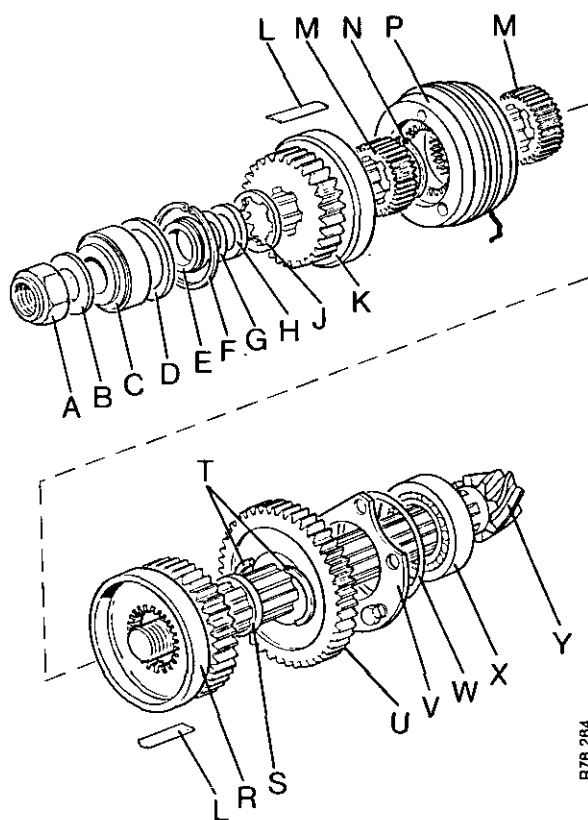

FIGURE 83. BEVEL PINION SHAFT ASSEMBLY
4. Assemble the pinion shaft components in the following sequence: see Figure 83.